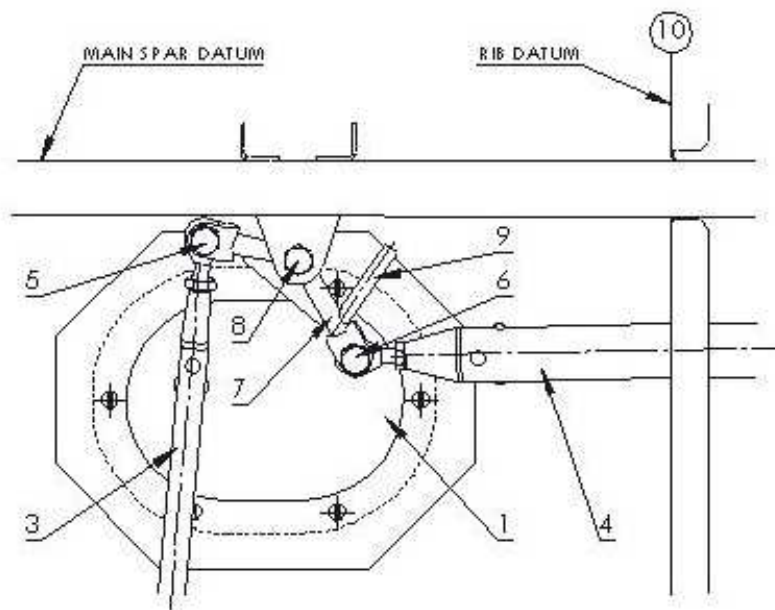

Fig. 6-11
Disassembly is identical for the left and the right wing (see Fig. 6-11).
- (b) Set the bell crank (7) to the position (see Fig. 6-11), insert the bolt (8) to the hole in the bell crank and brackets and secure it with self-locking nut.
- (c) According to the Fig. 6-11 connect push rods (3) and (4) to the bell crank.